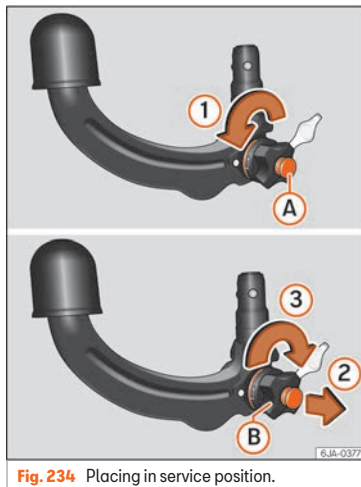

Fig. 234 Placing in service position.
- Turn key (A) fully in the direction of arrow (1) » **Fig. 234.**
- Pull manual regulator (B) outward in the direction of arrow (2) and turn it fully in the direction of arrow (3). »